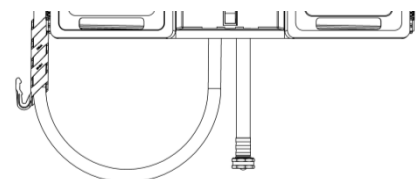

Figure 3
7. Connect the supplied water hose to your water source and activate the dispenser by selecting a position on the dial and using either the bucket or bottle fill activation point (Figure 3)